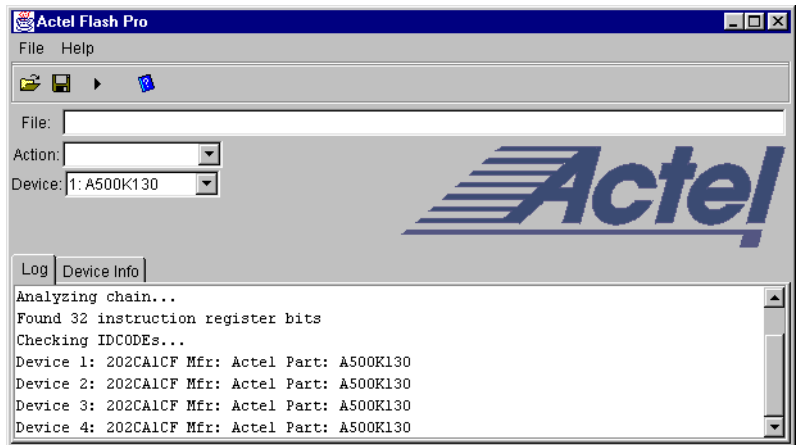

Figure 2-3. Flash Pro: Analyzing Chain
1. **From the File menu, click *Analyze Chain*.** Chain details appear in the Log window, as shown in Figure 2-3. If you encounter any failures, please refer to “Error Messages & Trouble Shooting Tips” on page 33.